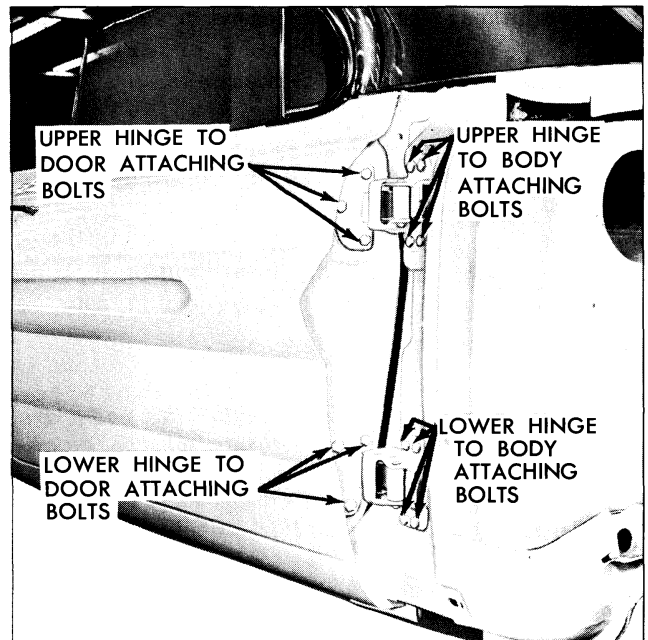

Fig. 3-22 Front Door Hinges
*NOTE: The wire harness connector for power operated front door ventilators is located approximately twelve (12) inches below the ventilator motor. For detailed illustrations of this connection, see the ELECTRICAL section.*
5. With door properly supported, remove bolts securing upper and lower hinges to front body hinge pillar or door hinge pillar. With aid of a helper, remove door from body. (Fig. 3-22).